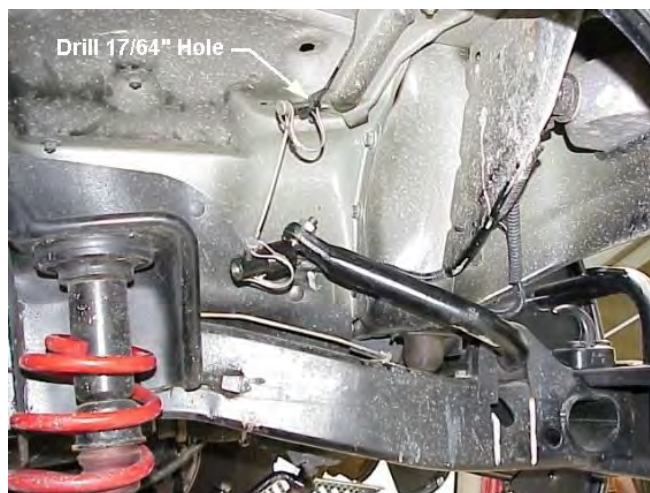

Figure 23
- 3) ☐ Connect the sway bar to the inside of the fender wells as shown in figure 23.